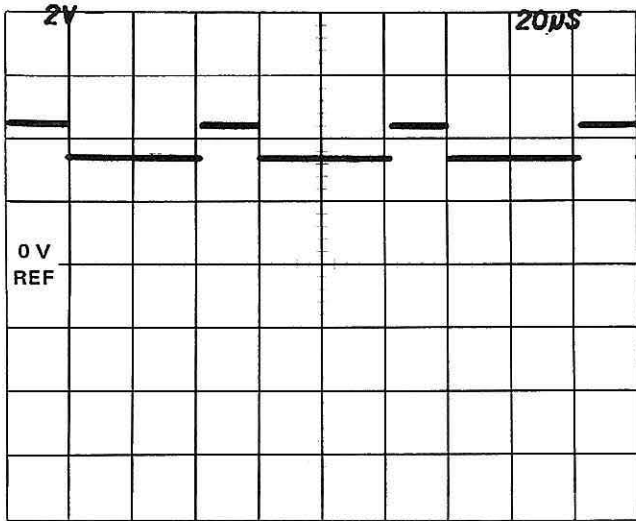

Fig. 6-6. Probe to Pin 15 of U455 or Pin 15 of U470.
12. Push the 5S14N MAN button in. Move the probe to Pin 15 of U455 on the Horizontal board. Trigger the test oscilloscope for a waveform similar to that shown in Fig. 6-6.
13. Move the probe to Pin 15 of U470 on the Horizontal board. Trigger the test oscilloscope for a waveform similar to that shown in Fig. 6-6.